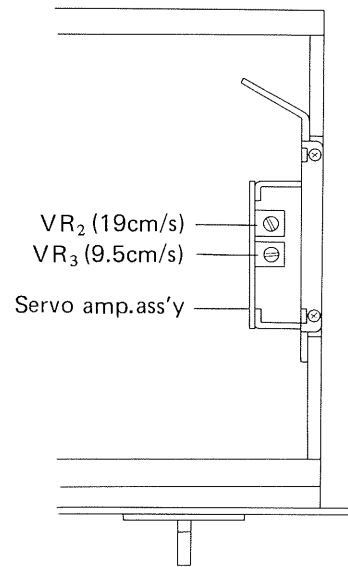

Fig. 27
2. Adjust VR_2 ($2k\Omega$) of the servo amp.ass'y of Fig. 27 so that this value becomes 3000Hz/s.
2. Adjust VR_3 ($2k\Omega$) in the servo amp ass'y of Fig. 27 so that this frequency becomes 1500Hz/s.